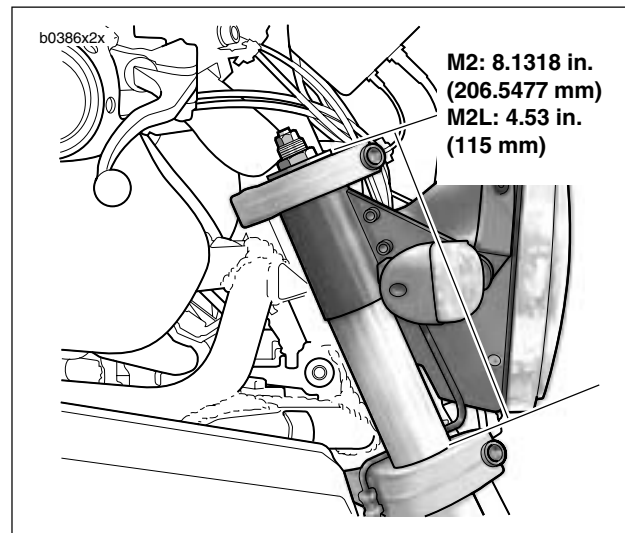

Figure 2-55. Aligning Front Forks
2. See Figure 2-55. Position fork tubes so that top of each slider tube is flush with the top surface of upper triple clamp. Be sure that top surface of fork is not below top surface of upper triple clamp.